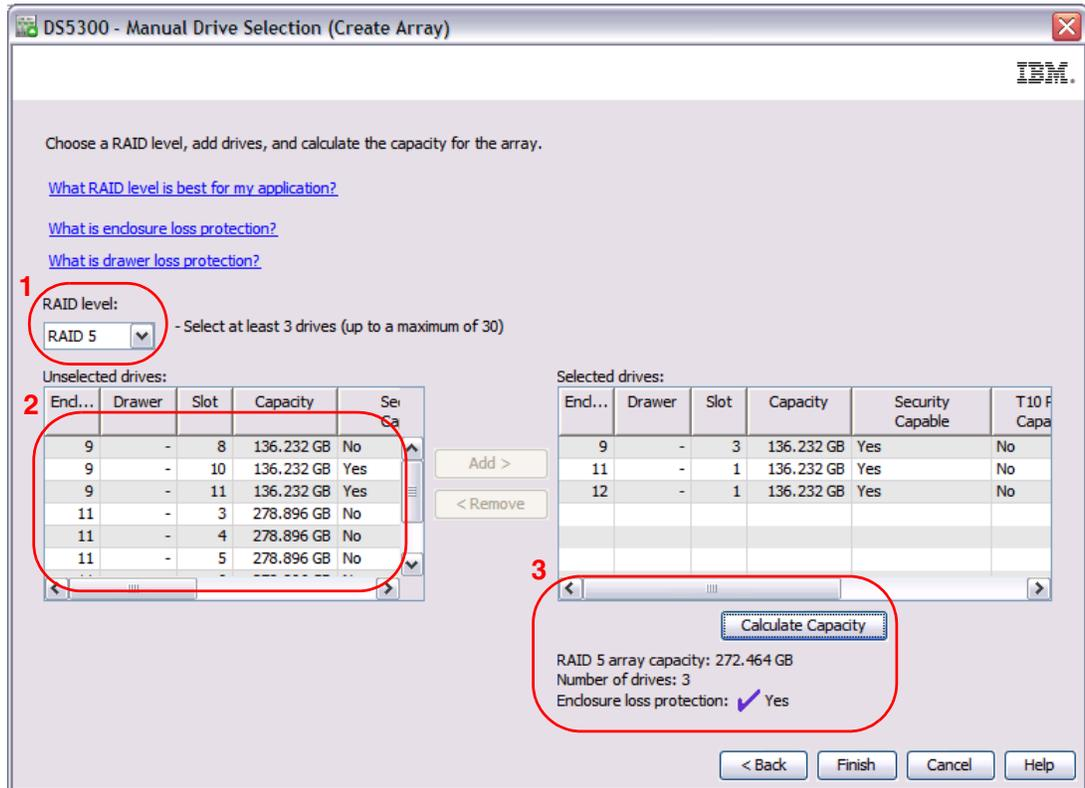

Figure 3-12 Manual configuration for enclosure loss protection
When using the manual method, we can create an array as follows (Figure 3-12).
3. Click **Calculate Capacity** to proceed, after selecting the drives. When enclosure loss protection is achieved, then a checkmark and the word *Yes* will appear in the bottom right side of the window, otherwise, it will have a circle with a line through it and the word *No*. After you are satisfied that capacity and protection have been obtained, click **Finish** to create the array. See Figure 3-12.